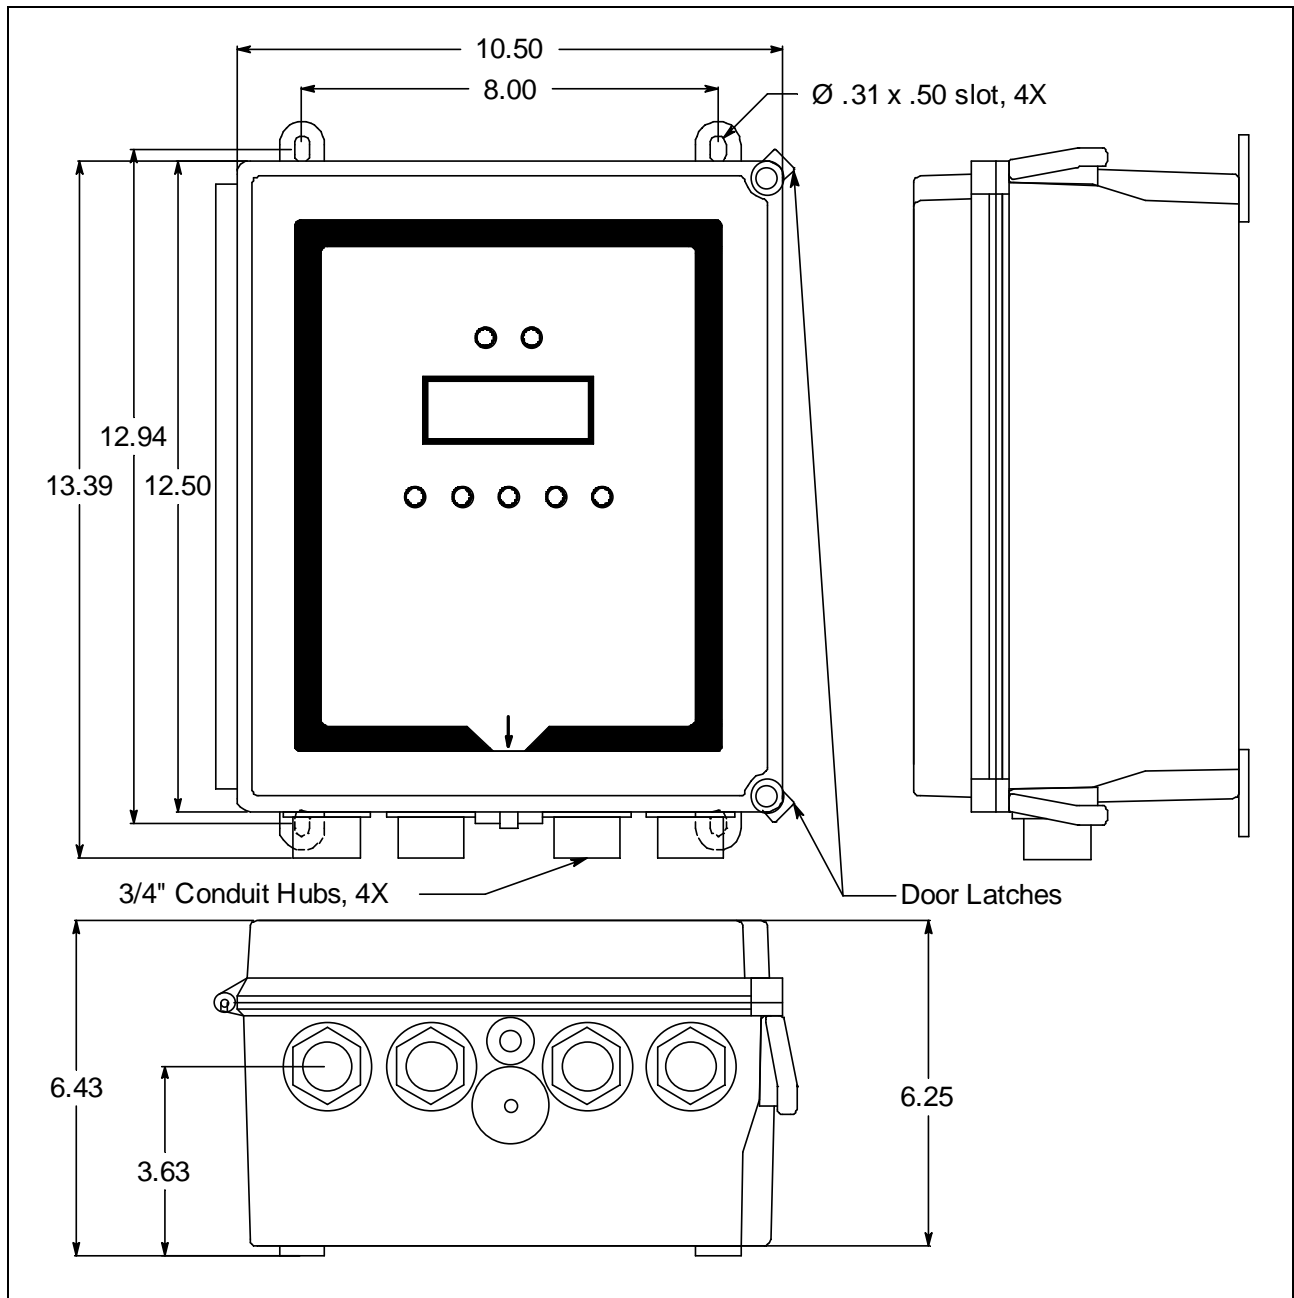

Figure 9: Beacon 410A Gas Monitor Outline and Mounting Dimensions
The Beacon 410A can be ordered with an alarm strobe light installed on the top of the housing. The Beacon 410A retains its NEMA 4X rating with the strobe installed. Strobe operation can be programmed in Configuration Mode (see “Chapter 6: Configuration Menu” on page 50). The outline and mounting dimensions with the alarm strobe are the same as the standard Beacon 410A with the exception of the height. The difference is shown below. See Figure 9 for all outline and mounting dimensions.
3. The Beacon 410A is shipped with the mounting feet positioned under the housing. Loosen the screws that secure the feet to the housing, rotate the feet to their mounting position as shown in Figure 9, then tighten the screws.
4. Prepare the selected mounting site as required to mount the Beacon 410A. It should be mounted at eye level (4 1/2 to 5 feet from the floor). Refer to Figure 9 for the outline and mounting dimensions.